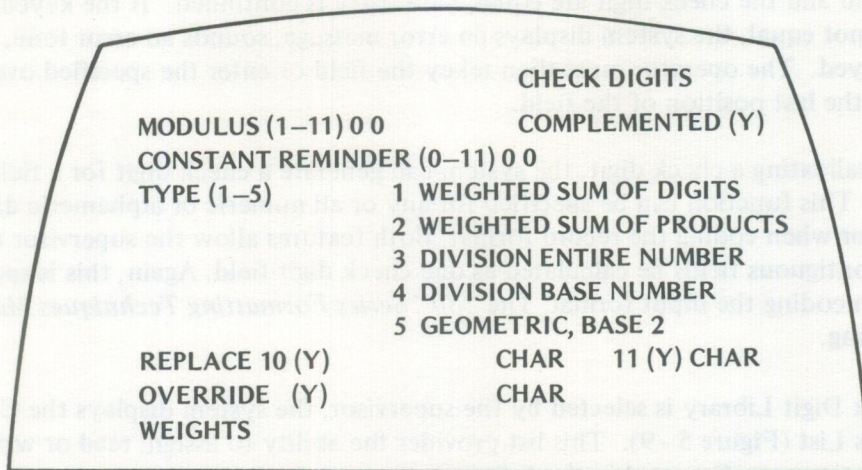

Figure 5-10. Check Digit Format
- Assign – This option is used to create or change a check digit routine, store the routine on disk, and assign the check digit routine to a library reference number. This number is later used by the supervisor to associate a check digit routine with an input format. To create a check digit routine select (A) ASSIGN, from the options list and enter the library reference number (1 – 15) which will be associated with that routine. Once a number (1 – 15) is entered, the message "HIT RELEASE TO PROCEED; OTHERWISE HIT HELP" is displayed. When the release key is depressed, the system displays a check digit format (Figure 5-10).
The system uses the conventions of Examine Mode when displaying the check digit format (Figure 5-10), via the Assign Option. To enter or change any part or parts of a check digit routine, hold down the RCD key and depress COR. Once the check digit routine is entered or corrected, the HELP Key is depressed to return to the Supervisor HELP List.
The following is an explanation of the terms that appear on the Nixdorf Check Digit Format (Figure 5-10).